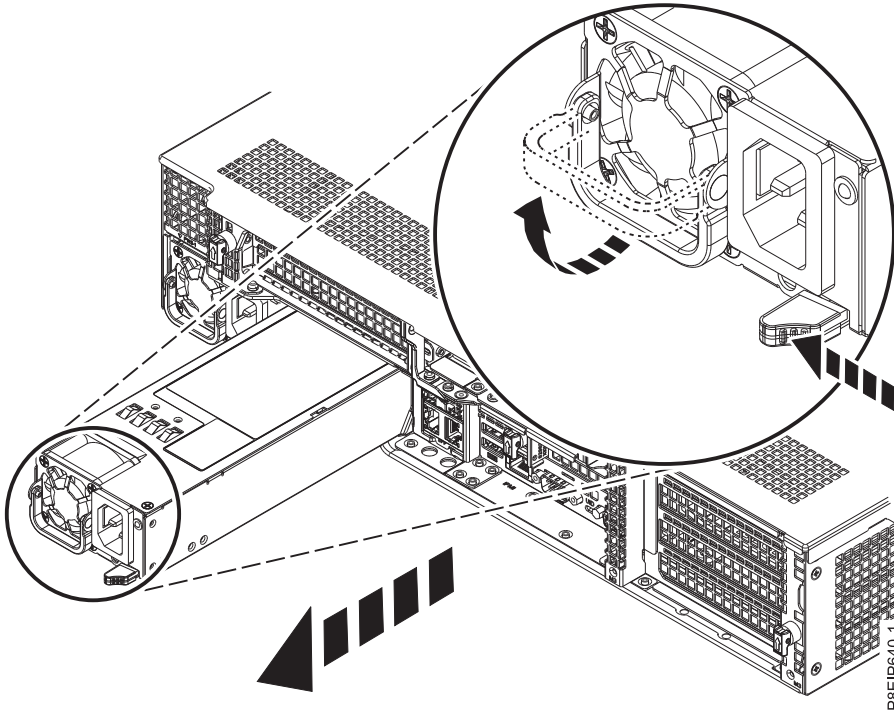

Figure 93. Removing a power supply from the system
- a. To unseat the power supply from its position in the system, push the locking-tab to the left as shown in Figure 93 on page 88.